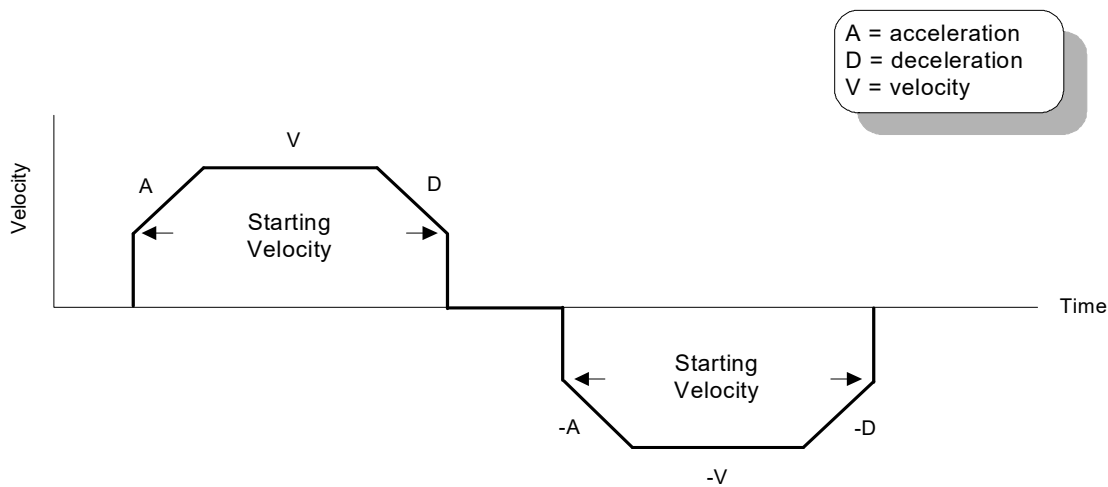

Figure 4-2:
instantaneously begin motion. This is to avoid passing through the resonant frequency of a step motor. In the deceleration phase of the profile, rather than continuously decelerate to a velocity of zero (0), the velocity will transition from the start velocity to zero (0) velocity with no deceleration phase in between. Figure 4-2 shows a typical trapezoidal profile with non-zero starting velocity.